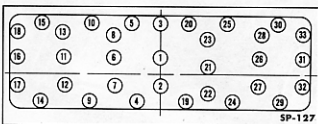

Fig. 20—Cylinder Head Bolt Tightening Sequence
4. Install the two modified bolts as guide pins in the cylinder block holes numbered 14 and 30 in Fig. 20.
7. Install the cylinder head bolts and tighten them down snugly in the sequence indicated in Fig. 20. Complete tightening of the head bolts by using a torque wrench to tighten the bolts in the proper sequence to the specified torque of 30-35 foot-pounds.